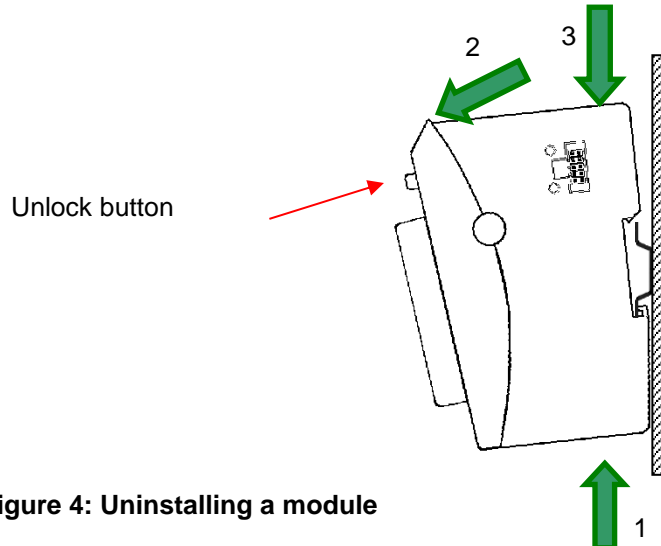

Figure 4: Uninstalling a module
- ⇒ Push down the unlock button (see Figure 4) of the module that you wish to disconnect from the module to the left of it.